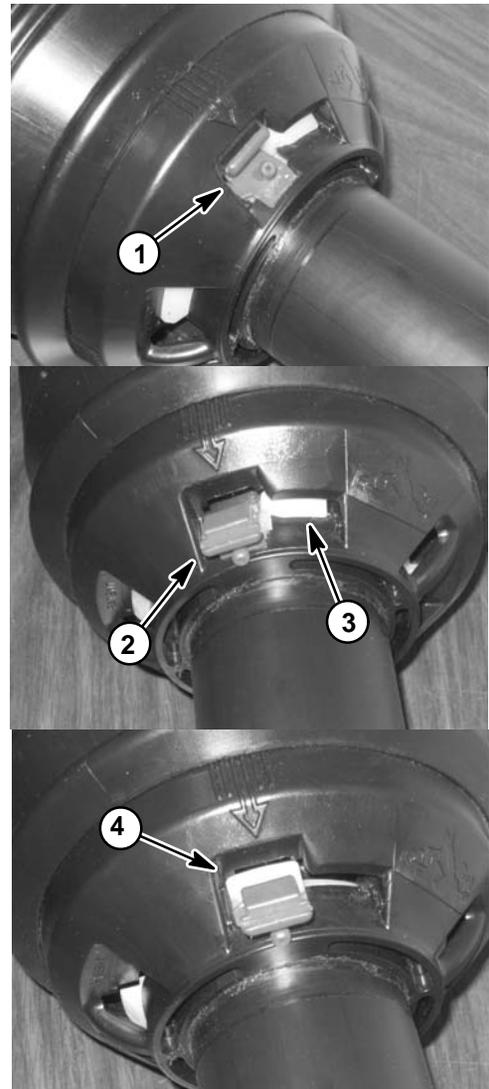

Figure 38
5. If necessary, remove guards from PTO driveshaft (Fig. 38):
3. Install guards to PTO driveshaft if removed (Fig. 38):